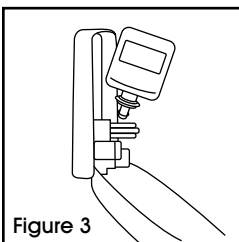

Figure 3
3. Insert refill at slight angle into dispenser so nozzle is inside lock release. (See Figure 3)